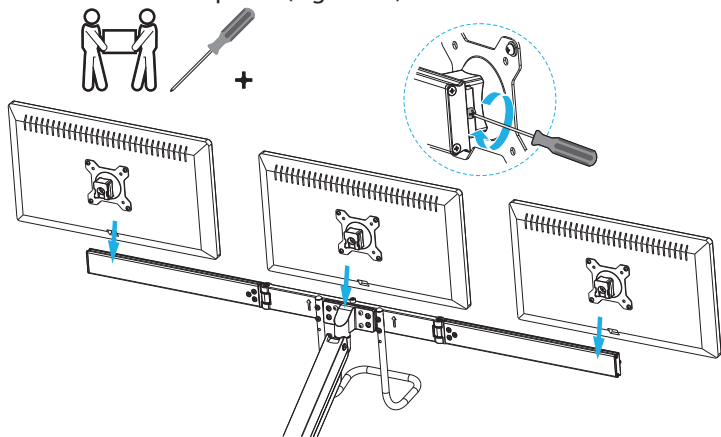

Figure 19
1. Mount the **Central Monitor** onto the **Crossbar, Center**. Mount the **Left and Right Monitors** onto the **Crossbar, Left and Right** respectively. (Figure 19)
2. Use a **Phillips Head Screwdriver** to tighten the **Screw** located on the holder for each of **VESA Monitor Mounts** to secure them in place. (Figure 19)